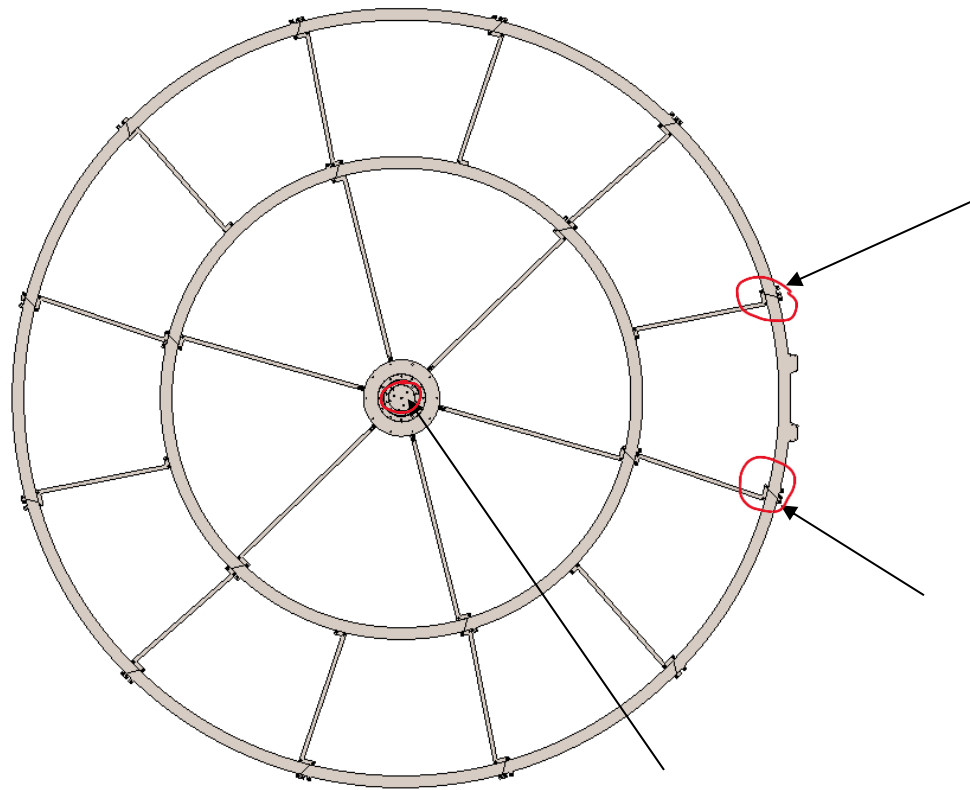

Figure 4: Center bearing and motor track anchoring
Step 3: Once the tracks are fully assembled, bore 3 holes thru the center bearing plate into the floor using the 3/8" masonry bit at a depth of 5". Use a shop vacuum to remove chips and dust from the bored holes. Install three 3/8" x (H4) anchors to secure the center bearing assembly to the floor. Repeat the drilling and installation of anchors to fasten the motor track plate (see arrowed circles on fig.4) to the floor surface. The center bearing and motor track anchors **are required** to keep the positioning of the turntable true to the desired location, and to prevent damage to the motor. It is recommended (not required) to anchor all the remaining tracks. The anchors will firmly hold the tracks to the un-even ground surfaces and prevent unwanted noise as the turntable rotates. Once all anchors are tightened to 28 ft-lb, **it is required and imperative to cut and remove the exposed threads of the concrete anchors above the nut (see illustrations below).** **If the threads are not cut properly the stud will interfere with the rotating turntable and cause damage to the turntable structure. The center bearing anchors typically do not need to be cut .**